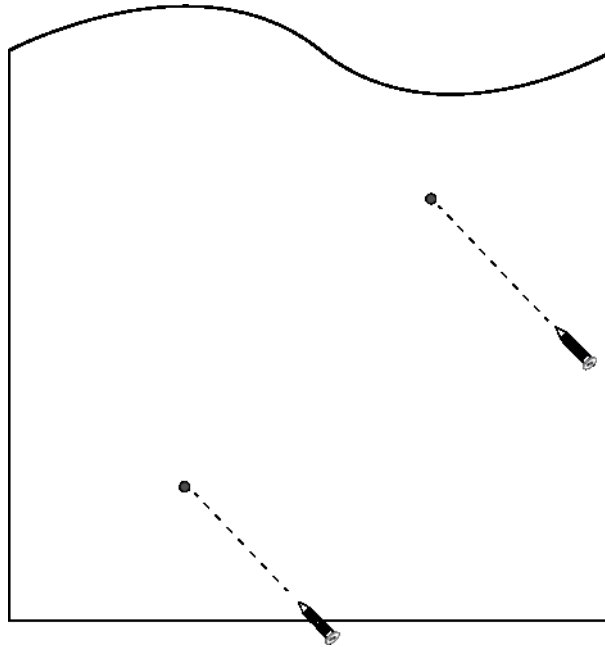

Figure 18. Installing Two Screws
5. Install two M4 screws and anchors (if required). Leave the screws loose enough so that the bracket can slide under the screw heads. Refer to Figure 18 on page 52.